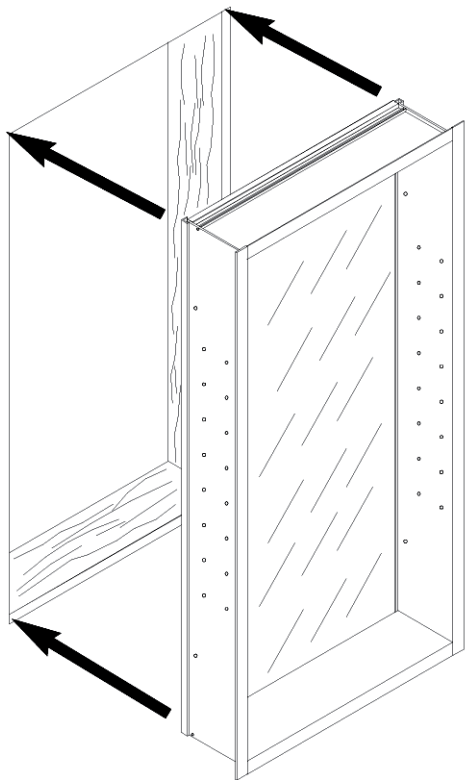

FIG 4
5. Make sure hinges are on correct side of opening for left hand or right hand operation. Place cabinet box into rough opening. On fully recessed applications, make sure cabinet flange covers rough opening evenly all around (Fig 4). On semi-recess applications, mirror edges should meet wall surface. (Fig 5). Shim as needed.